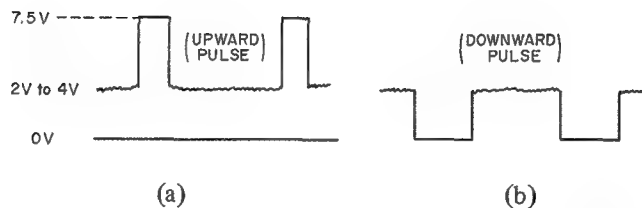

Fig. 22
**CAUTION:** The upward pulse around +7.5V shown above may change to downward pulse (0V) below 2 to 4V with VR1 turned as Fig. 22(a). Be careful not to measure the width of the downward pulse. It can be checked in a simple way as the upward pulse will change to a downward pulse when some pressure is applied to the platter by hand.